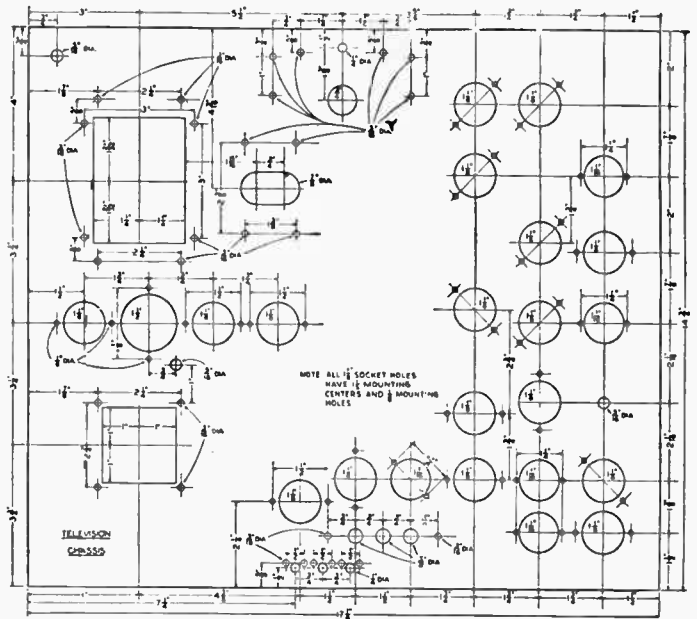
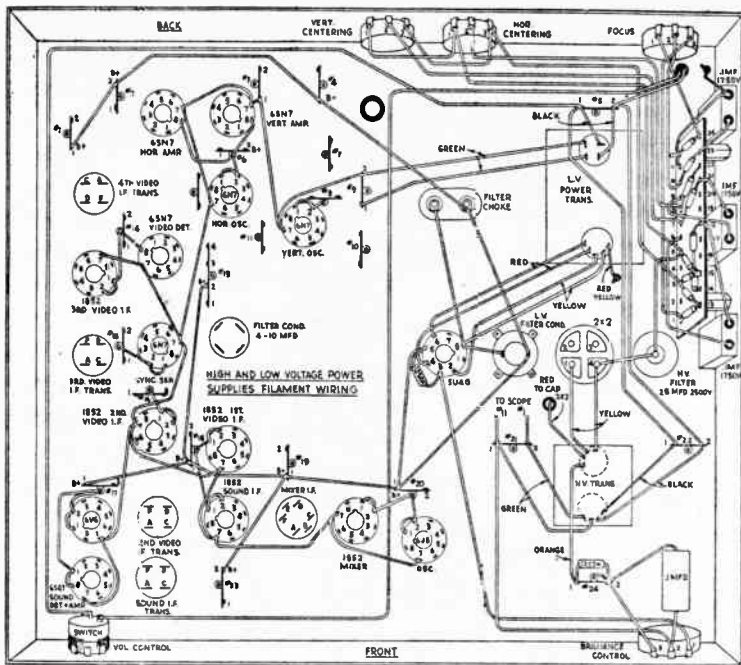

FIG. 1
FIG. 3
The chassis is shown in Fig. 1; front and rear aprons are shown in Fig. 2. While size of transformer holes may vary somewhat with the transformer chosen, the rest of the chassis is standard. After layout has been made on the chassis with a paper template, all round holes $\frac{1}{4}$ in. dia. or larger are center-punched and first drilled with a No. 27 drill, then drilled with a $\frac{3}{8}$ in. drill, and punched with a Greenlee socket punch of the proper size. The one elongated hole with $\frac{3}{8}$ in. dia. ends may be made following the same procedure but making hole on each end and removing remainder in center with chisel and file. The square and rectangular transformer holes are made by drilling small holes around the square to be punched and, after the center has dropped out, using a file to even off the sides. Mounting of parts is shown in Fig. 3.
- 1—chassis, drilled and punched as per Fig. 1
Parts are mounted and wired on terminal strip (Fig. 3). For convenience of construction, terminals are numbered. Along with various power transformer color codes (these may vary with the make of transformer purchased) each transformer will have a color code and a drawing of the coils of both antenna and oscillator included in the box in which it is packaged. In the drawings,
Figures 3 and 3A, are pictorial and schematic diagrams for the power circuits. Because of the high voltage in the cathode ray tube circuits, special wire having a high voltage insulation must be used.